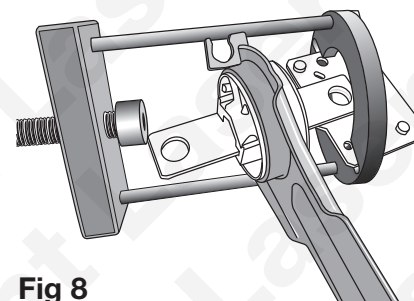
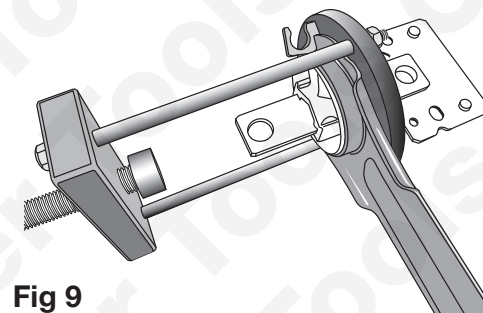

Fig 8
Fig 9
*Note: For method of mounting and demounting the press frame when working on the Volvo left hand bush with double size mounting plate, see **Fig 8** and **Fig 9**. Hold the tool frame at an angle and use the slots built into the press frame support ring (D) to slide past the bush mounting plate.*